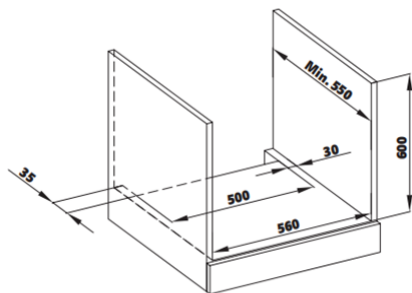

Figure 2
- The appliance is designed so that it shall fit commercially available counters. A safe clearance shall be left between the product and kitchen walls or furniture. Refer to the drawings for suitable clearances. (see figure 2,3) (values are in mm).
- Cabinet shall conform with dimensions specified in Fig. 2.